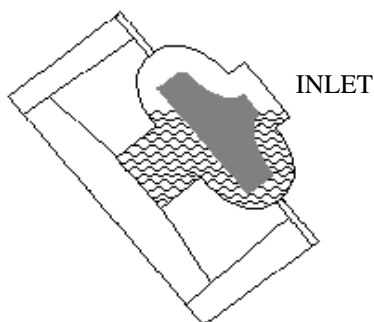

FIGURE 1: BEST ORIENTATION
3. Cut out the required section of the radiator hose. Connect the pump inlet and outlet to the appropriate hoses. Connect the pump inlet and outlet to the appropriate hoses ensuring that the pump is oriented in the BEST CORRECT ORIENTATION as shown in Fig 1, page 6 "**BLEEDING THE EWP[®]**" during bleeding. Ensure hose clamps are tight.